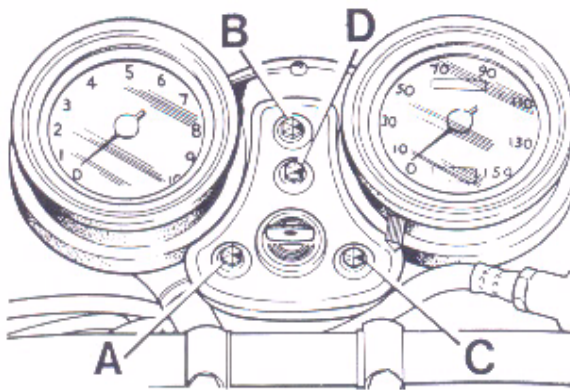

Fig. H20. The warning lights
Warning lamps are fitted into the binnacle assembly, mounted on the handlebars. (Fig. H20). The blue light (A) indicates high beam. The amber warning light (B) serves the flasher lamps, and becomes illuminated in conjunction with them when they are operational.